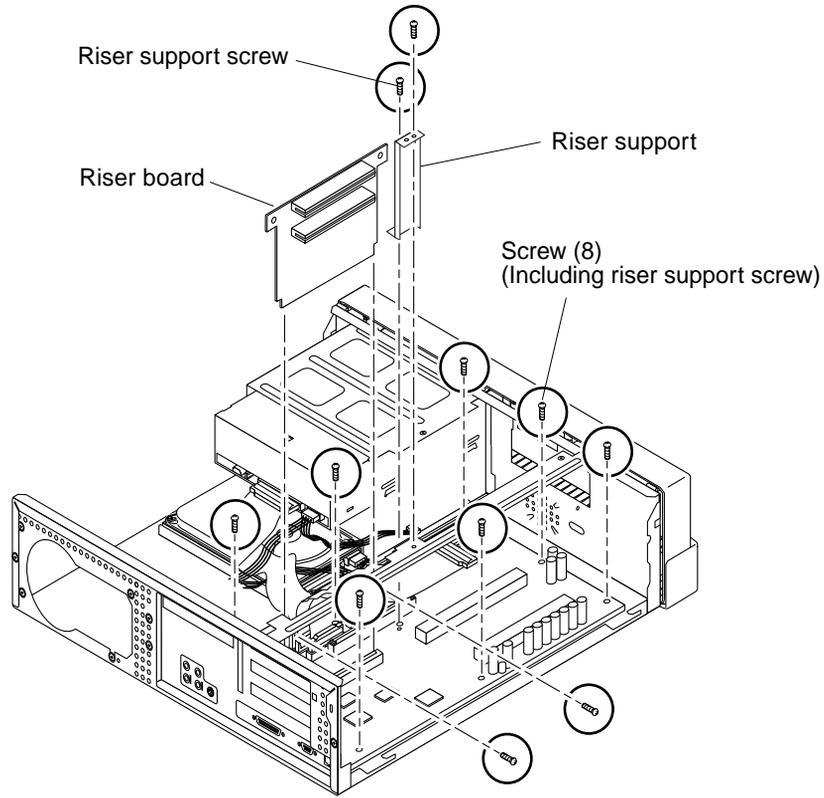
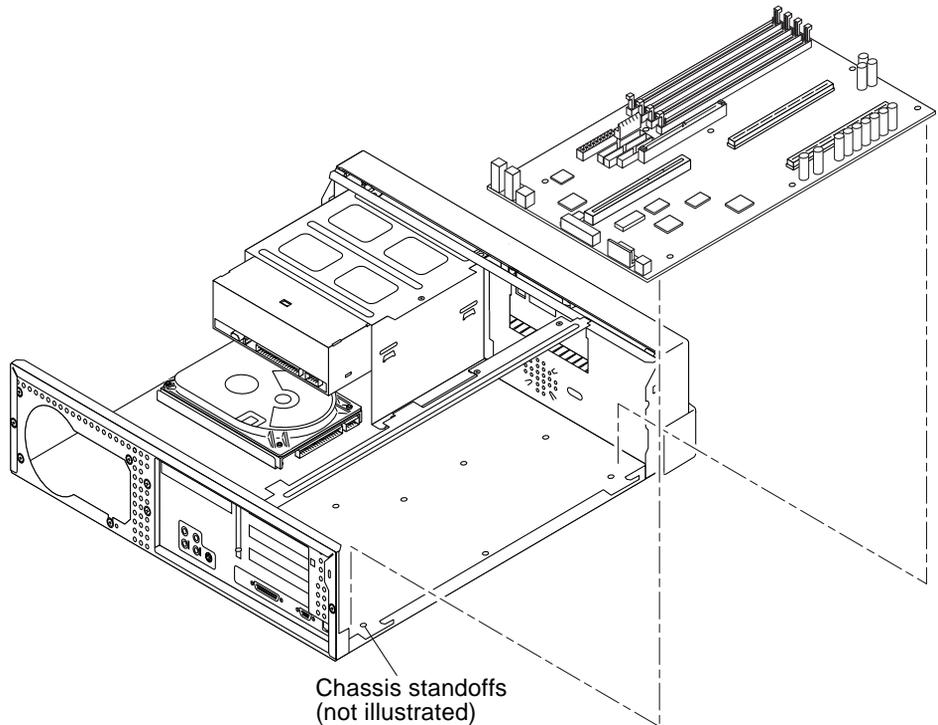

FIGURE 10-13 Removing and Replacing the Motherboard (Ultra 5)
FIGURE 10-14 Removing and Replacing the Motherboard (Ultra 5)
5. Remove the motherboard from the Ultra 5 as follows (FIGURE 10-13 and FIGURE 10-14):
- Replace the motherboard into the Ultra 5 as follows (FIGURE 10-13 and FIGURE 10-14):